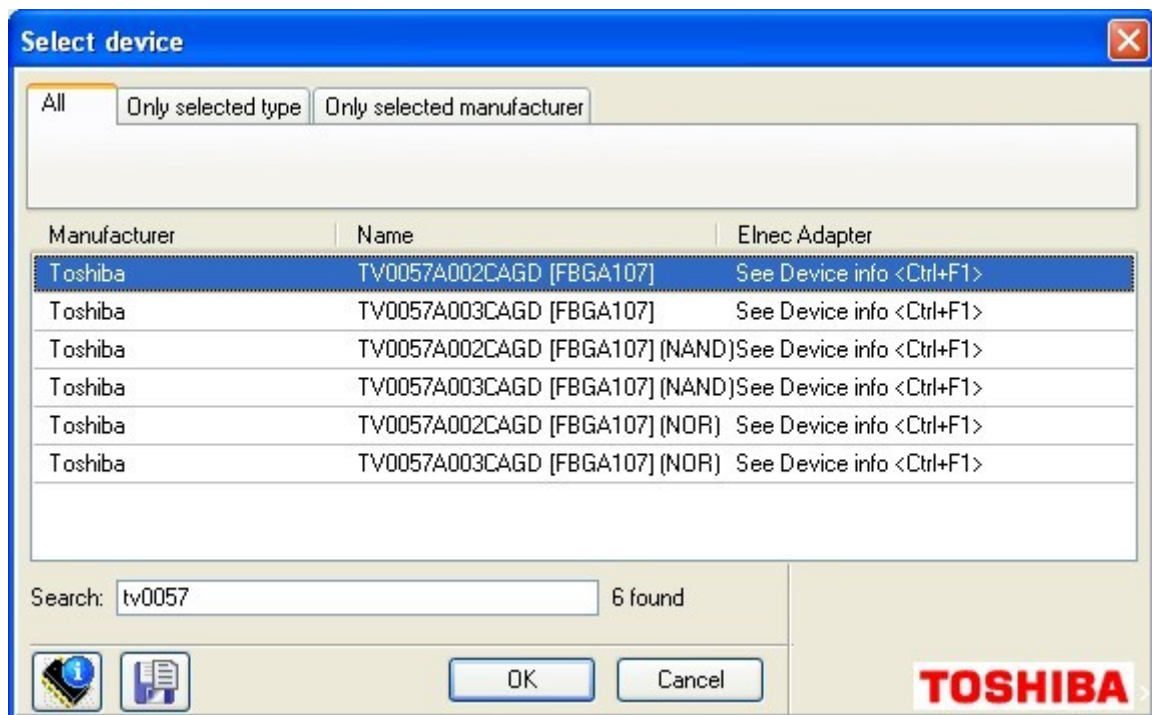
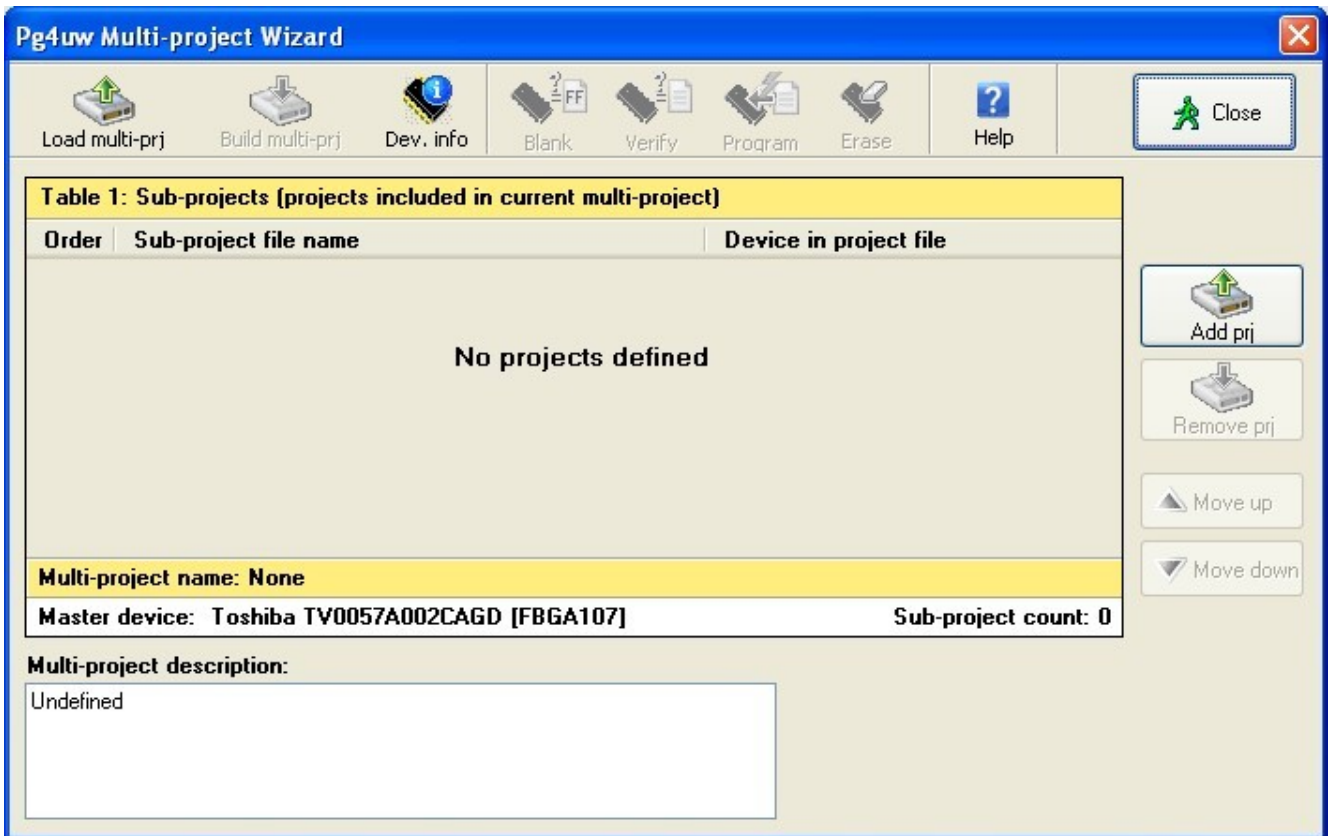

Figure 18: Selecting Master-device
Figure 19: Empty Multi-Project Wizard window for Master-device
1. Having Project files available for all Sub-devices, you can finally build-up the Multi-Project file. Display Select device dialog window again and select the Master-Device, i.e. TV0057A002CAGD [FBGA107] in this example (see Figure 18). Empty Multi-Project Wizard window displays, see Figure 19.